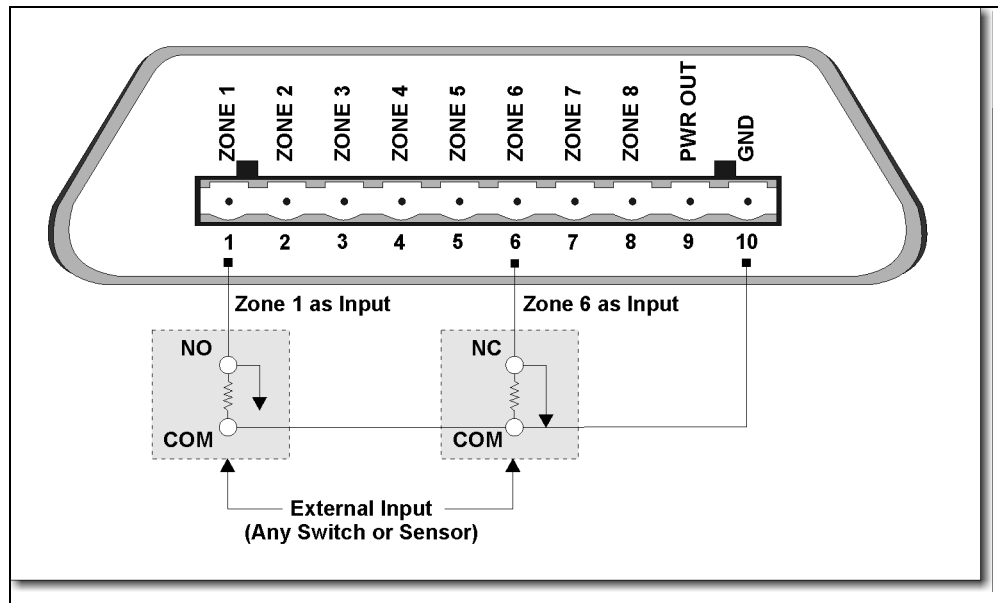
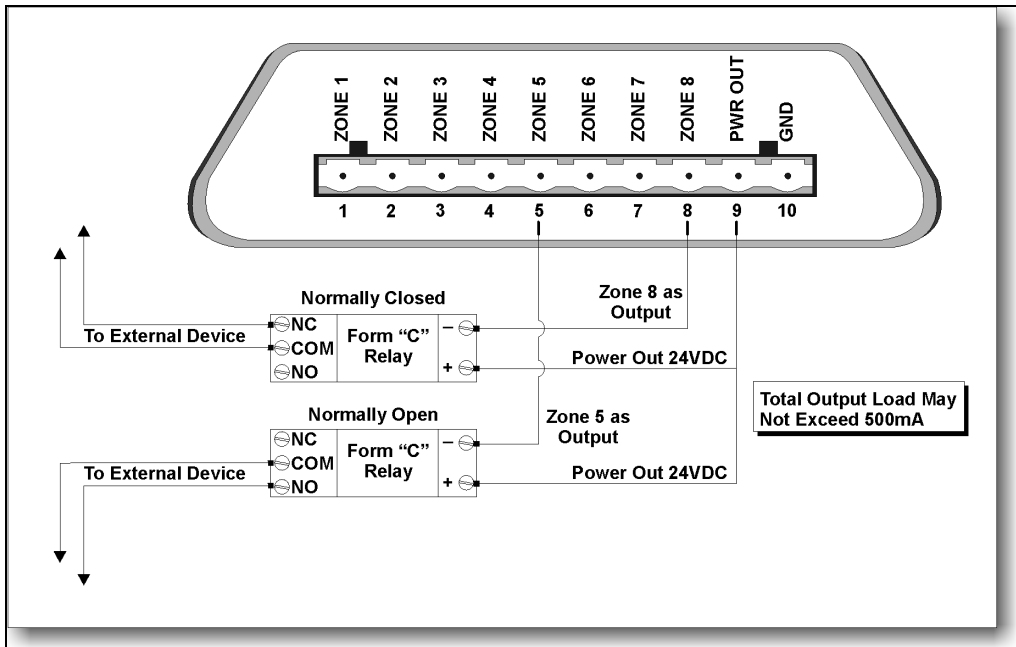

Figure 3-26: I/O-8 Module Typical Input Wiring
Figure 3-27: I/O-8 Module Typical Output Wiring
- 2 Connect the inputs and outputs. See Figure 3-26 and Figure 3-27 on page 3-49.